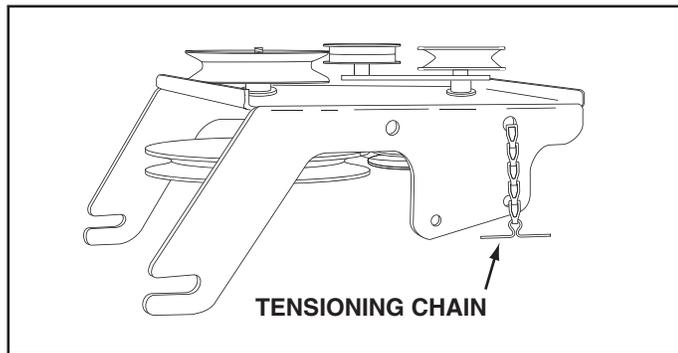

FIGURE 19
1. Turn the clutch/idler assembly upside down and place the extra tensioning chain through the left front hole as shown in figure 19.